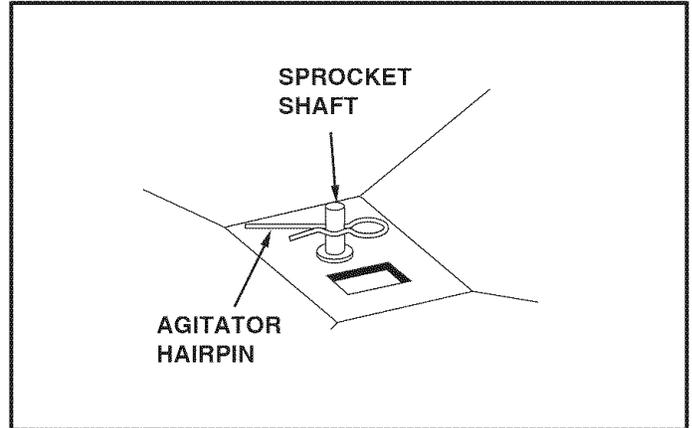

FIGURE 16
- If the agitator hairpin becomes damaged or worn it can be replaced. See figure 16.